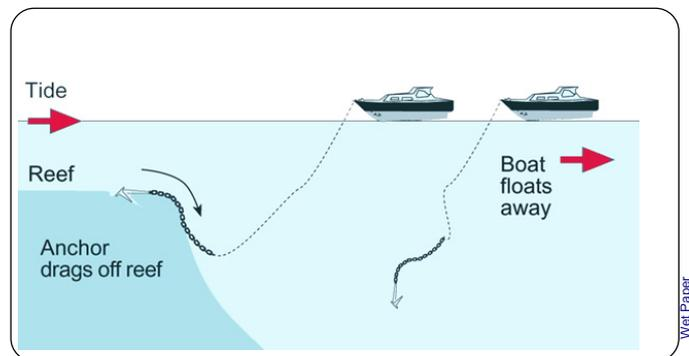

Figure 91.3 Be careful of anchors on reefs
- On a reef edge, make sure that as the tides comes in your anchor does not swing free. See Figure 91.3.